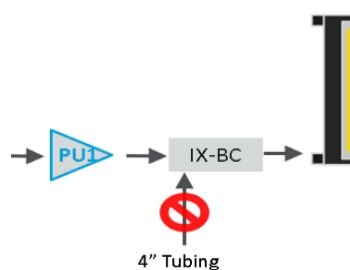

Figure 2. Testing Pushing Pump performance using a BC
2. The rotameter will be added after the PU and chamber (Figure 2)